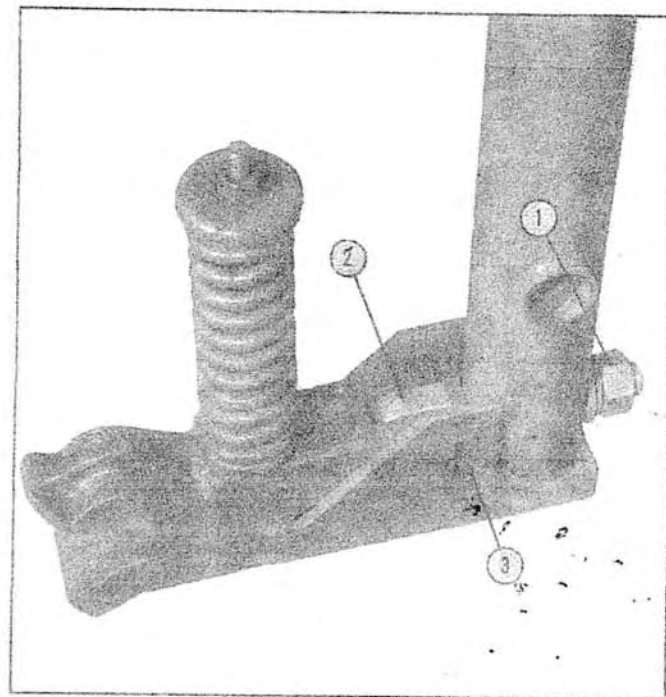

Fig. 33 - Lead Adjustment
5. The cutter bar lead adjustment is taken up at the attachment point of the safety release latch (Fig. 33). To increase the cutter bar lead, slacken off the hex nut (No. 1, Fig. 33), tap the bolt (No. 2, Fig. 33) rearward and slide out one or two of the slotted shims (No. 3, Fig. 33). Retighten the nut and recheck the lead measurement. Continue to remove shims until the correct measurement is reached; tighten the hex nut securely when the adjustment is complete.